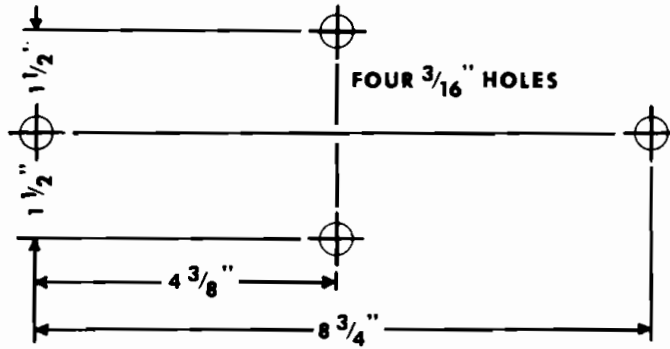

Figure 6 - Reverb Spring Mounting Hole Drilling Template
- () Determine where you wish to mount the reverb spring and drill four $\frac{3}{16}$ inch holes as shown in figure 6.